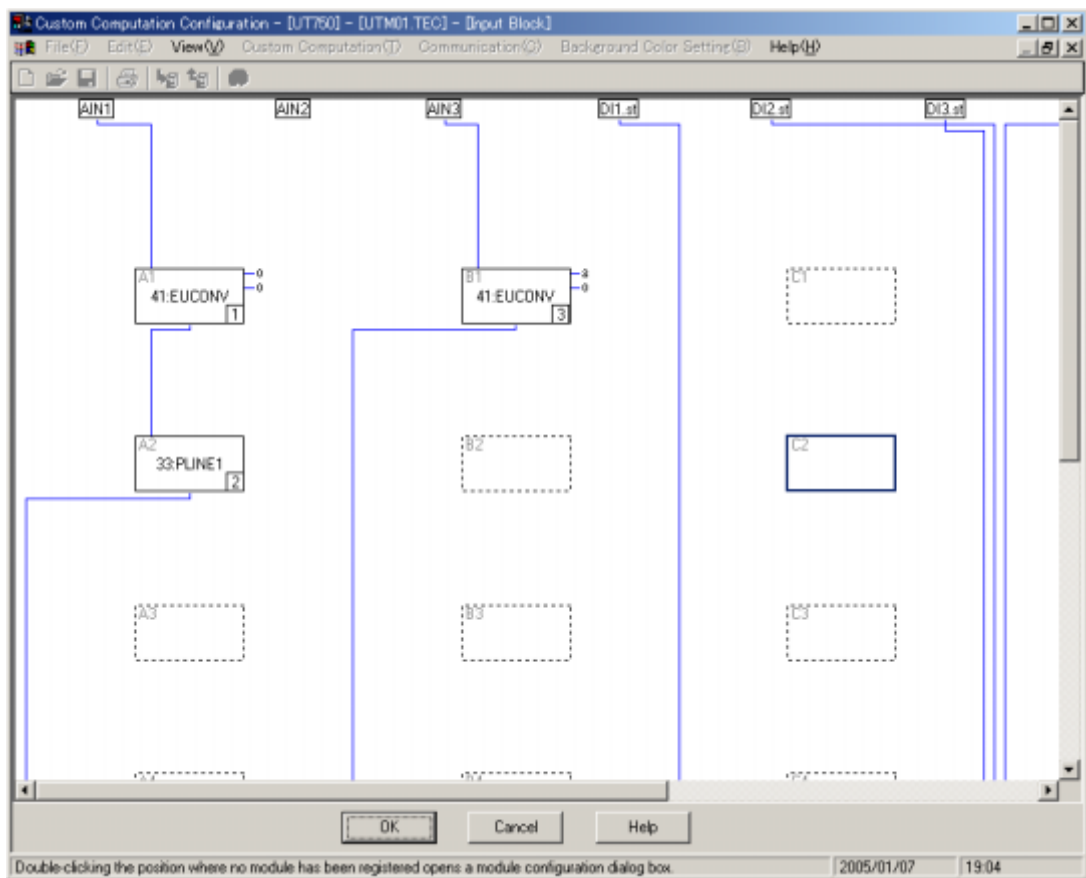

Figure 12.6.2 [Input Block] Dialog Box
- (1) In the [Custom Computation Configuration Menu] dialog box (Figure 12.0.2), click <Input Block>. The [Input Block] dialog box (Figure 12.6.2) appears.